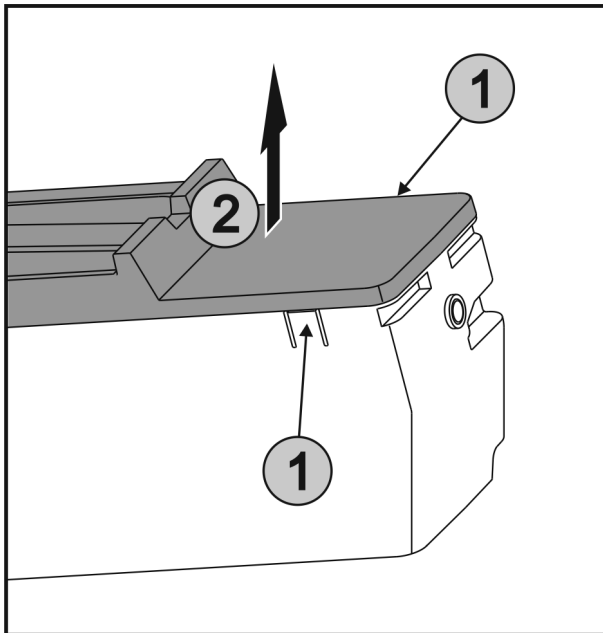

Fig. 58
- Press the lugs Fig. 58 (1) on both sides of the EasyTwist-Ice simultaneously and take off the lid Fig. 58 (2) to the top.